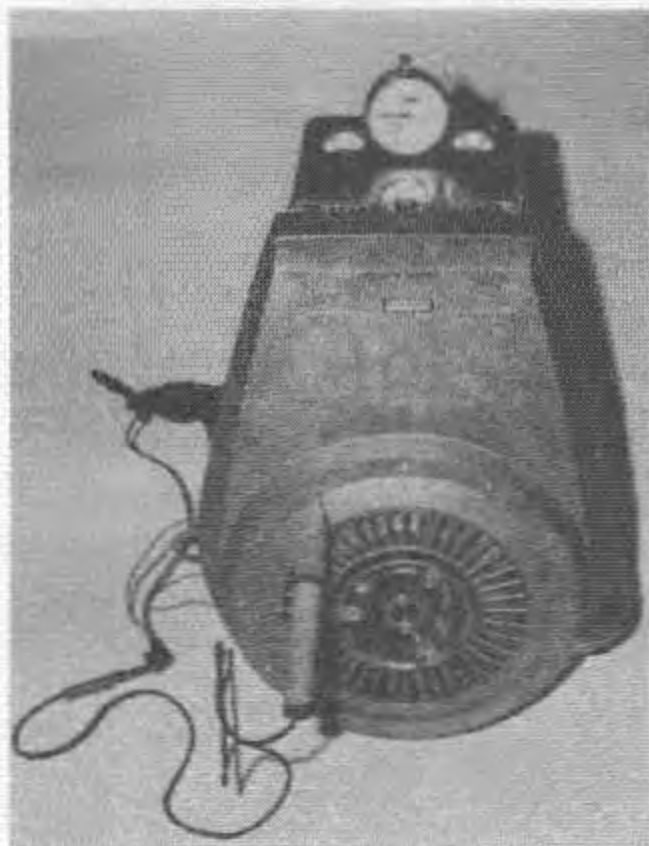

Fig. 23 — Checking Timing on Single Cylinder Engine
7. Remove black and blue wire lead from ignition coil and attach timing light wire to it. Ground light to flywheel housing, Fig. 23.